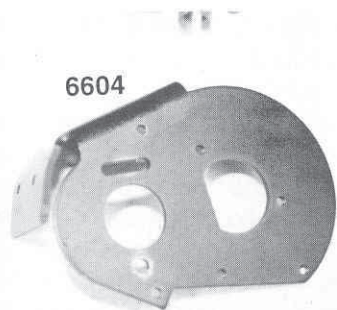

Fig. 62
□ **Fig. 62** In the Stealth main bag you will find the #6604 black anodized motor mounting plate. Place the motor plate over the drive gear/shaft. There are four holes around the motor plate shaft opening. You will need to line up the four threaded